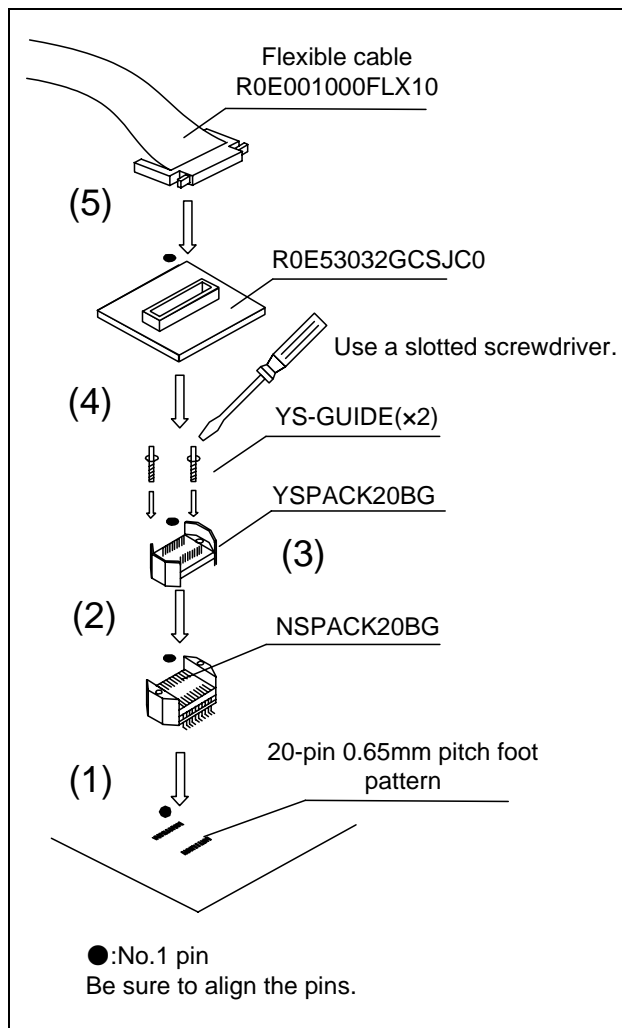

Figure 3 Connection procedure of the R0E53032GCSJC0
5. Connection Procedure (See Figure 3)